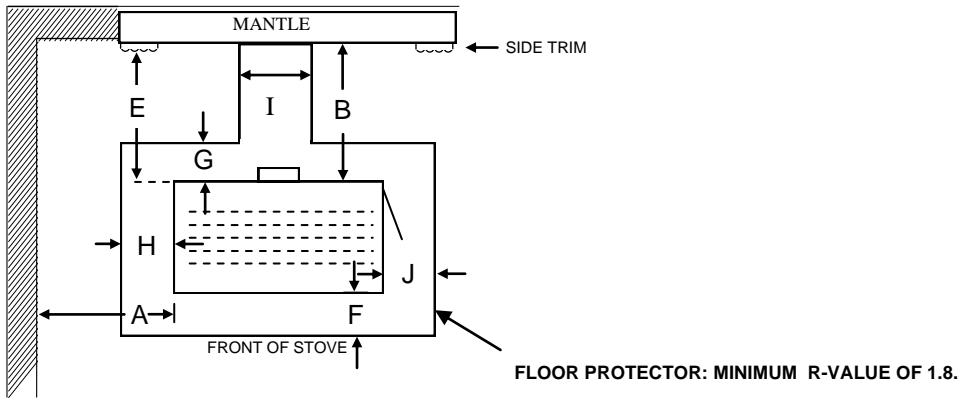
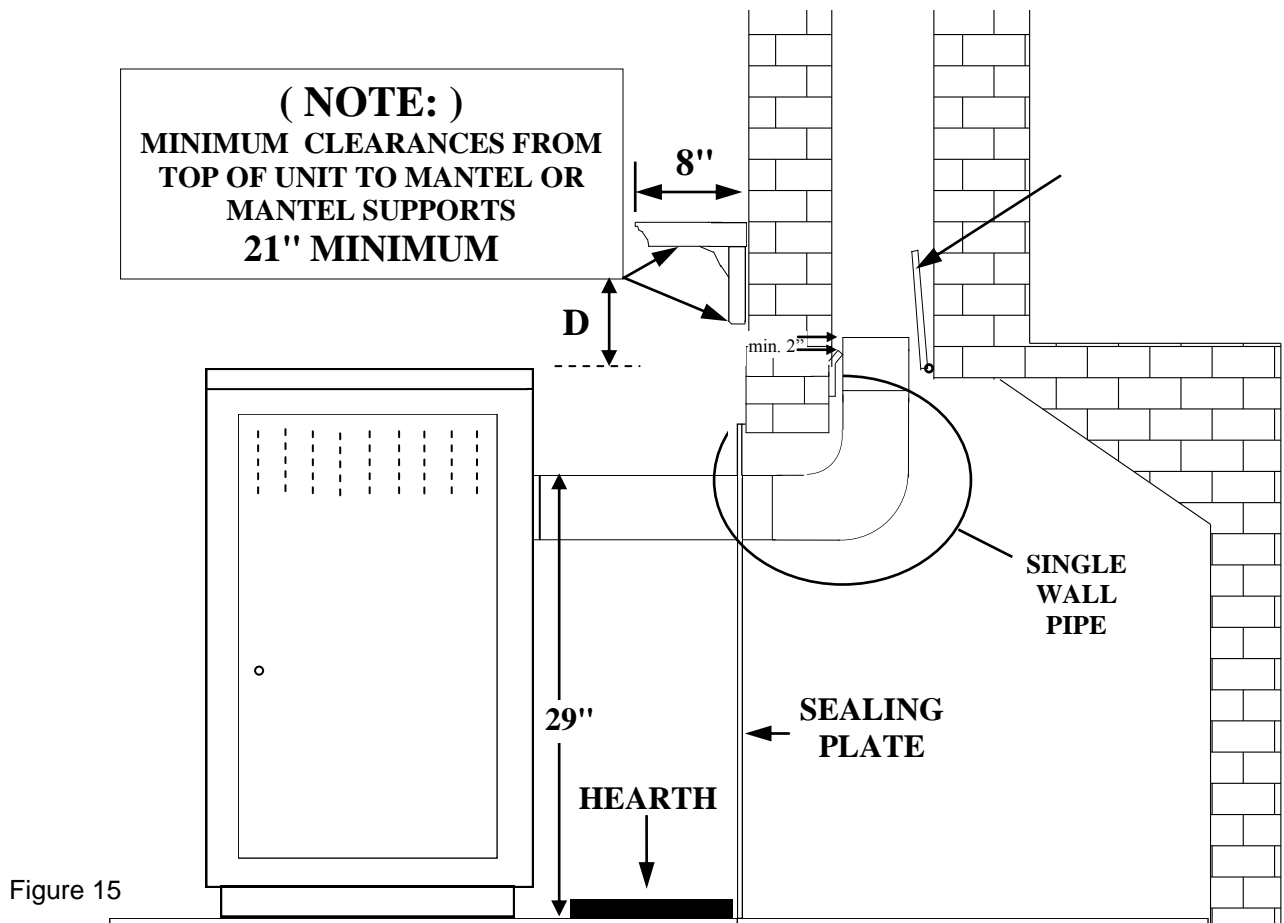

Figure 14
Figure 15
**NOTE: For minimum clearances (See Page 17, Figure 14 and Figure 15) .**
**Note:** Pipe must go above the damper 2" to have proper flow. **(See Page 17, Figure 15)**
- (c) Secure each section to each other using at least three (3) sheet metal screws or rivets, using furnace cement to seal joints.
- (d) Use three (3) sheet metal screws to fasten pipe to collar on rear of heater.